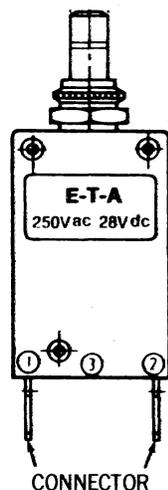

Fig. 4—Power Switch/Circuit Breaker
**2.04** The power switch/circuit breaker is located on the rear panel of the Comm-Stor II unit (Fig. 4). Perform the following steps to remove/replace the power switch/circuit breaker.